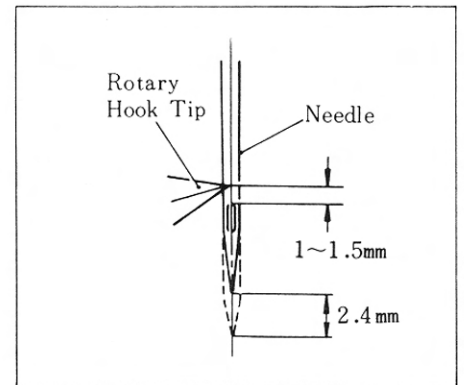

Figure 6a
- (i) Remove the space gauge and raise the needle bar so that the clamping gauge is now flush against the underside of the machine head. At this point, the hook points should be adjusted to the center of the needle for proper hook timing. (see Figure 6a)